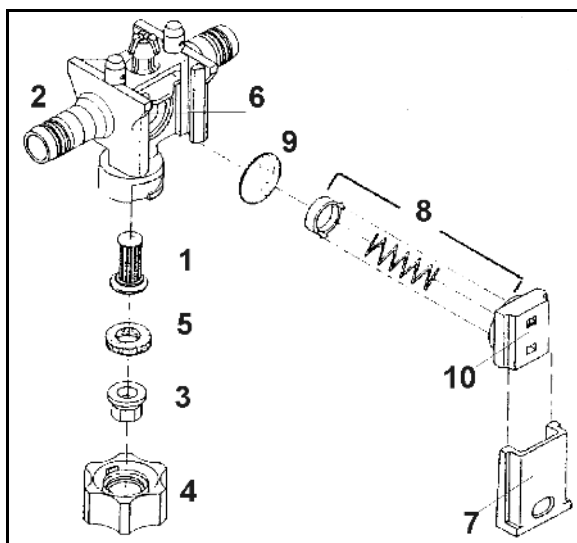

Fig. 200
2. Remove (Fig. 200/1) bolts.
3. Remove the valve cover (Fig. 200/2).
4. Remove the valve groups (Fig. 200/3).
5. Remove valve sealing ring (Fig. 200/4) and o-ring (Fig. 200/5).